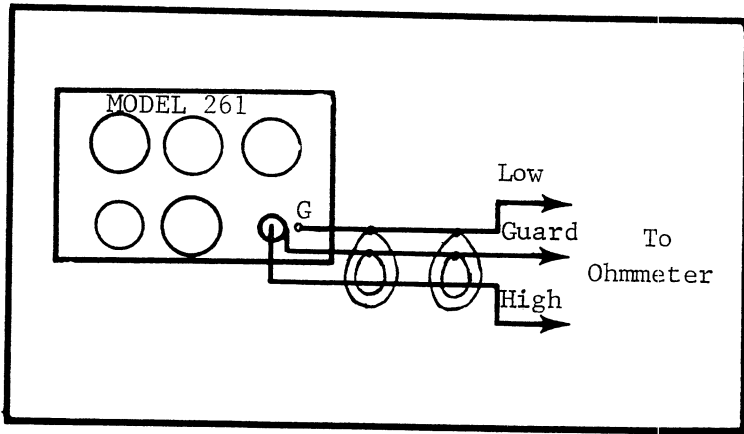

FIGURE 8. Guarded Circuit for Ohmmeter Calibration. This circuit is recommended for resistances of  $10^9$  ohms and more.
2. Carefully shield connections above  $10^8$  ohms. Use guarded connections for resistances  $10^9$  ohms and more. See Figure 8. A guarded connection to the range resistor will eliminate the shunting effect of cable and connector resistance. For example, using the  $10^{10}$  ohm range, a  $10^{12}$  ohm leakage resistance will add an error of 1%. To make the connection, set the CAL-OPERATE Switch (S101, Figure 10) to CAL. Remove the link between the GND and COM Terminals of the Source. The outer shell of the OUTPUT Receptacle is the guard and the G Binding Post beside it is connected to the low side of the range resistor.